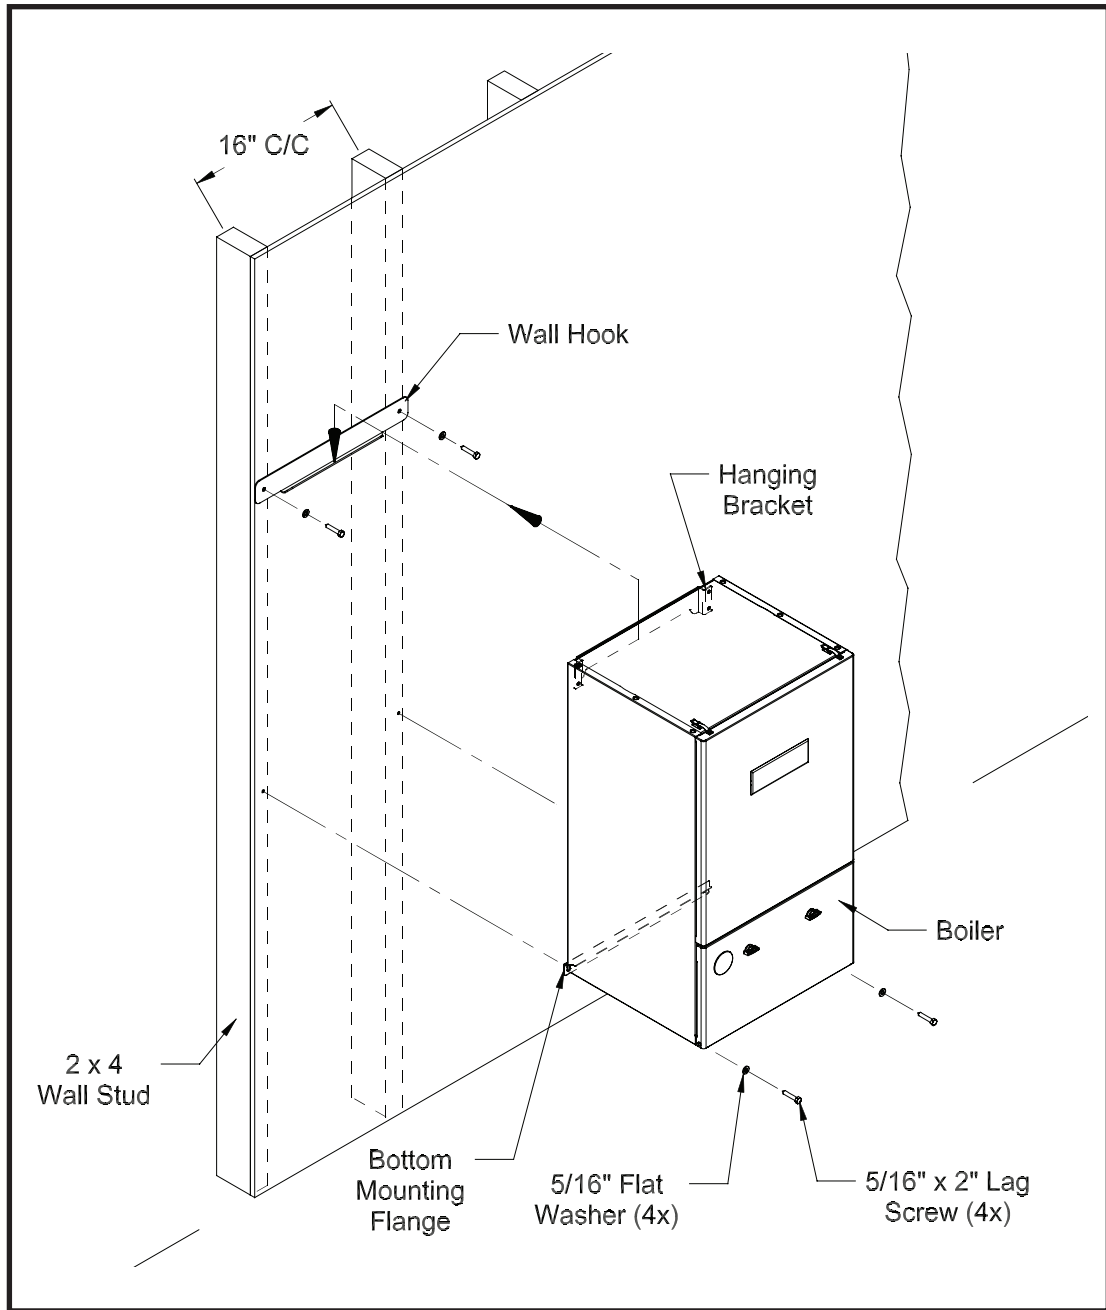

Figure 5.2 Boiler Mounting/Hardware
- 7) Attach the wall hanging hook using the $\frac{5}{16}$ " x 2" lag screws and washers, or other suitable anchors as appropriate (Figure 5.2). Make sure the hook is level.
- 8) Hang the boiler on the wall hook as shown in figure 5.2.
- 9) If not already done in Step (4) locate and drill holes "C" and "D" using the obround slots in the bottom mounting flange. Secure the bottom flange to the wall using the $\frac{5}{16}$ " x 2" lag screws, or other fasteners as appropriate (figure 5.2).